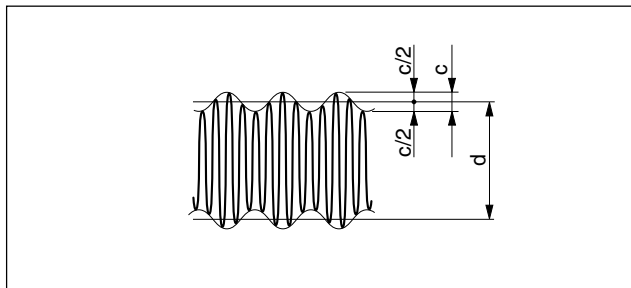

Fig. 4-6
- ③ Set the oscilloscope to 0.5 V/div, 5 ms/div and reset the (TIME/div) while moving the scale at a speed of 1 to 10 m/min so that the waveform shown in Fig. 4-6 can be observed.